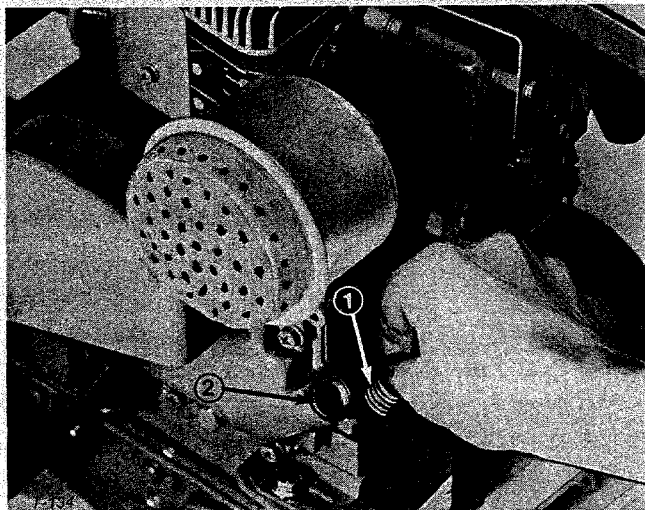

Figure 9
1. Set mower so engine is in level position and remove oil fill plug from front of engine (Fig. 9).
2. Add SAE 30 oil to engine until oil overflows out of oil fill hole (Fig. 9).